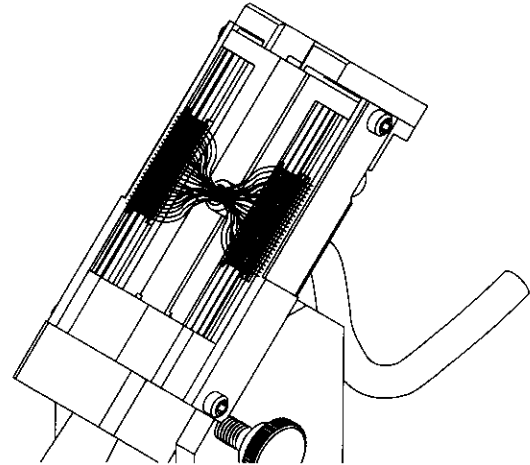

Figure 10
After the wires are trimmed, the lower tooling assembly is removed from the cutter and placed back into the bench mount as shown in Figure 10. At this point, the wires should be inspected to insure that they have remained firmly seated and that the wire ends have been properly trimmed.
7. Remove lower tooling assembly from cutter and place back into bench stand mount. Inspect wires to ensure that they have been properly cut and that they remained firmly seated in the comb slots. Refer to Figure 10.